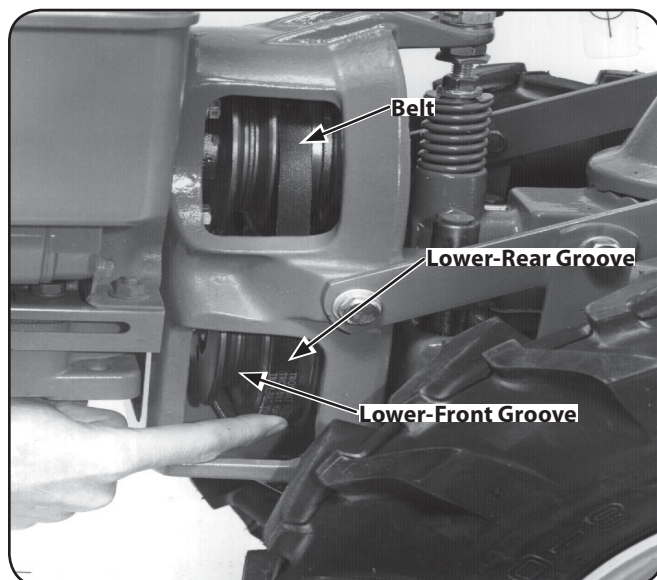

Figure 4-10
- Go to the right side of the tiller and finish seating the belt. See Fig. 4-10.